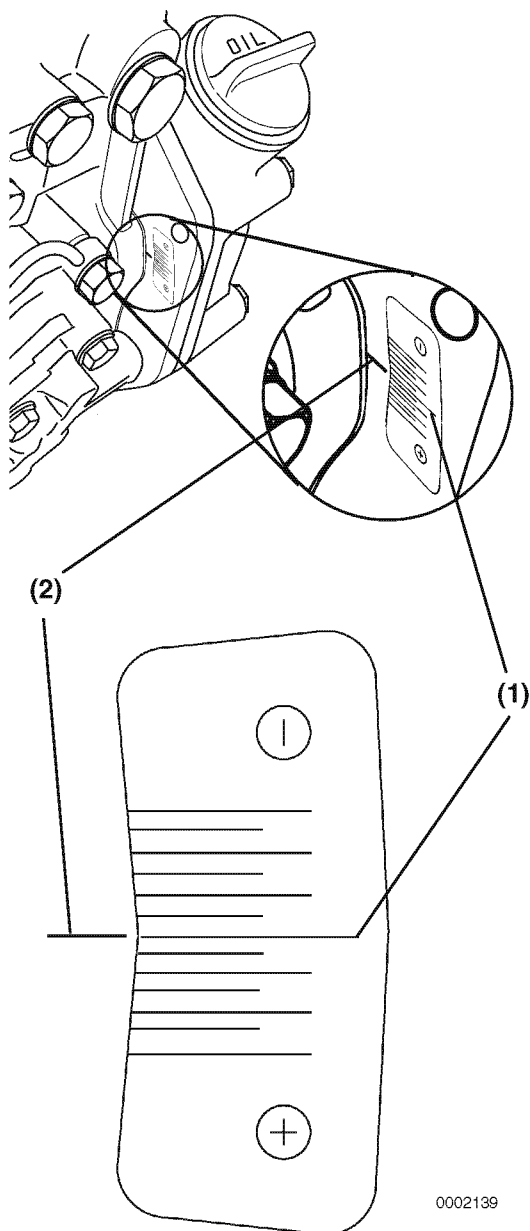

Figure 7-28
- Reinstall the timing grid sticker, provided with the new fuel injection pump, onto the back of the gear case / front plate (**Figure 7-28**). Align the “standard mark” (**Figure 7-28, (1)**) with the reference mark (**Figure 7-28, (2)**) made on the gear case during disassembly.